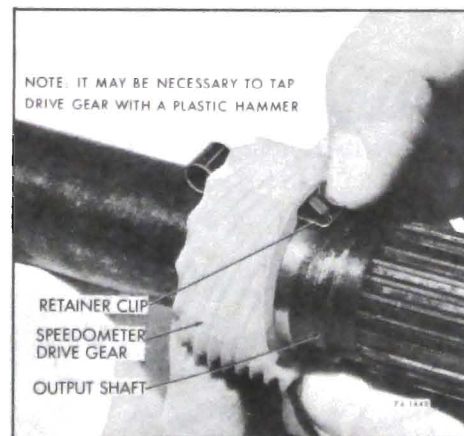

Figure 72-405 - Removing Speedometer Drive Gear
7. Remove speedometer drive gear. Depress retainer clip, then slide speedometer gear off output shaft. See Figure 72-405.